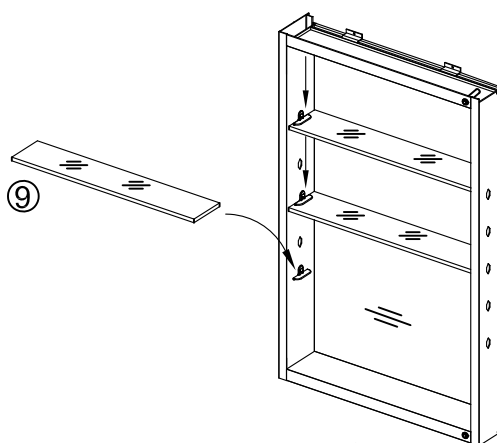

Fig 17
2 .Place glass shelf (9) on top of clear shelf clips making sure shelf is against back of cabinet. Press lightly to adhere the shelf clip sticker (Fig 17).